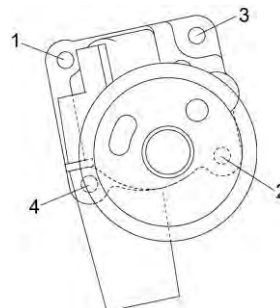

Figure 12
- C. Initially torque the nuts in the sequence shown in Figure 12 to 25 in.-lb. (2.8 Nm).
- D. Complete the final torque of the nuts to 96 in.-lb. (10.9 Nm), in the sequence shown in Figure 12.